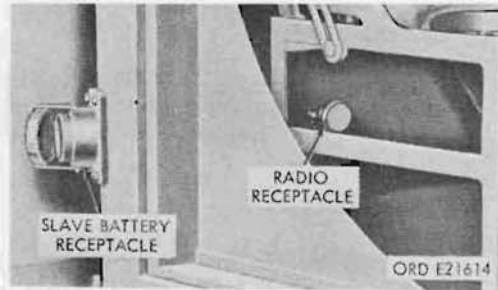

Figure 154. Slave battery and radio receptacles
(2) Slave battery receptacle (fig. 154). On winterized vehicles, a slave battery receptacle is installed at the right rear corner of the cab body. This receptacle is wired in parallel with batteries. It is used to charge batteries. It is used to charge bat-
(3) Radio receptacle (fig. 154). On some vehicles, a radio receptacle is located on the cab rear panel behind the assistant driver's seat, and provides a power connection for the radio equipment.